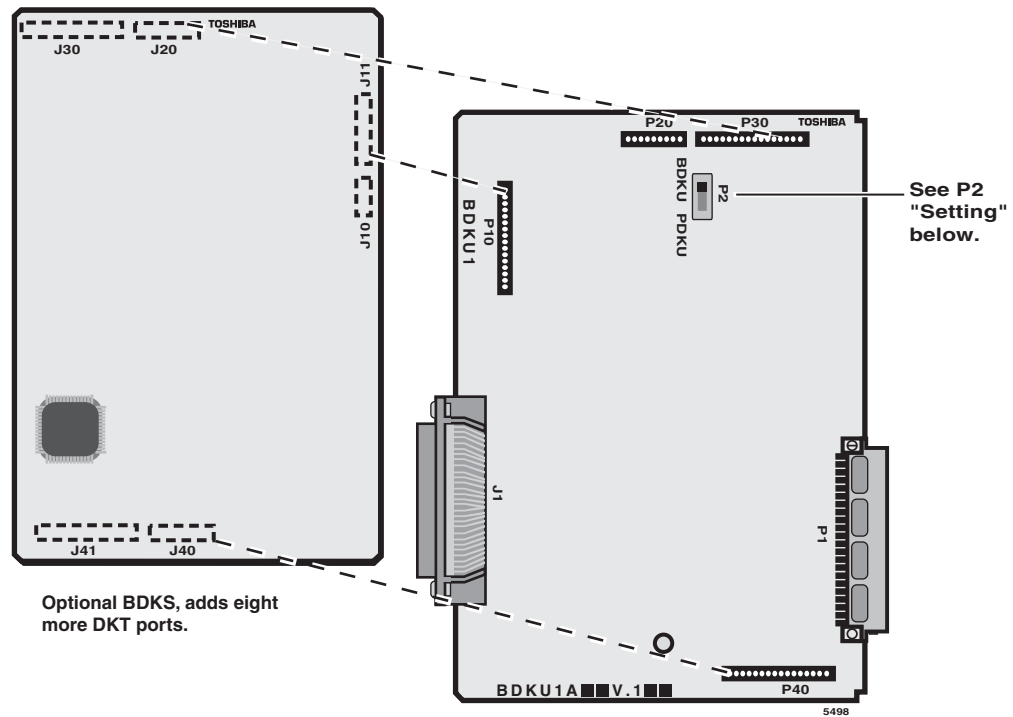

Figure 6-4 BDKU/BDKS PCB
- Match the BDKS connectors to the BDKU, as shown in Figure 6-4. Press firmly to ensure that the connectors are snug.
1. Set the BDKU/PDKU switch for the appropriate system (refer to Figure 6-4 and Table 6-3).